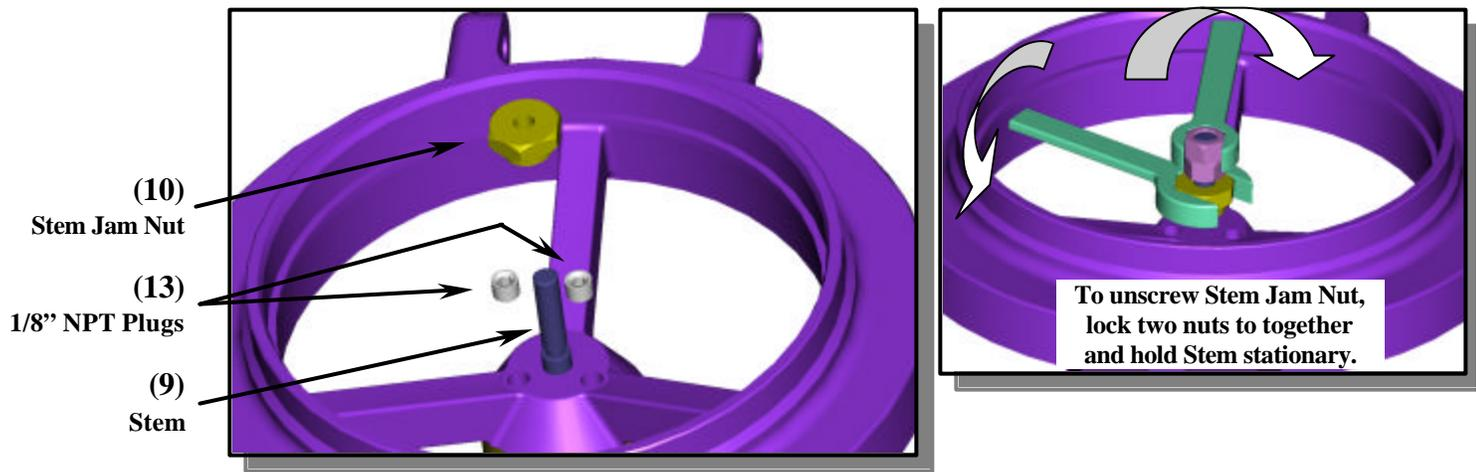

Figure 7
9.1.1. If *Stem (9)* starts to turn with *Jam Nut*, lock two 3/8"-16 nuts together at top of stem and use to hold *Stem*. See figure 7 Sub-view. Do **NOT** use a pair of pliers to grip stem since nicks on stem can cause o-ring seals to leak.
- 8.1 Place removable thread-lock on the threads of the *Stem (9)* and screw the *Stem Jam Nut (10)* all the way until it bottoms out. The round end of the *Jam Nut* faces down. See figure 7 of section 3.